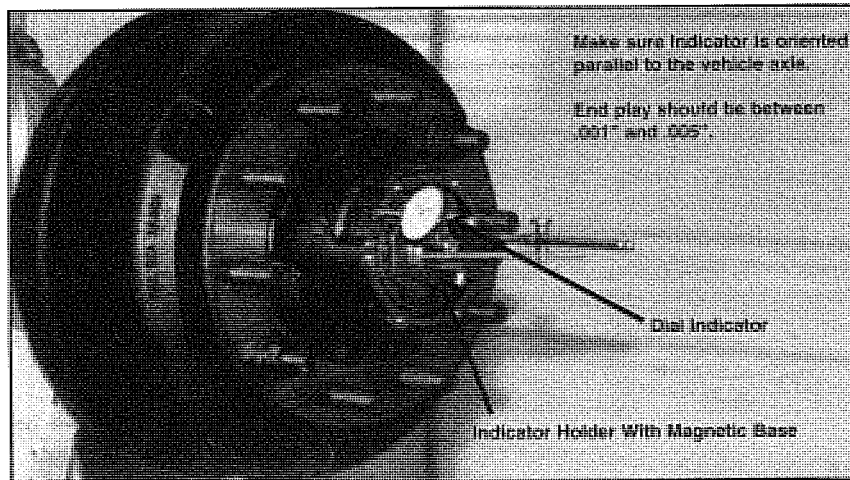

Figure II-11: Use of a dial indicator to check bearing adjustment.
- k. Check your bearing adjustment with a dial indicator, as shown in Figure II-11. Adjustment should be within 0.001 to 0.005 inch end play. When the bearing adjustment is correct, the hub should rotate freely without excess play. If the hub binds or shows excessive end play, repeat the proper portion of step j above.